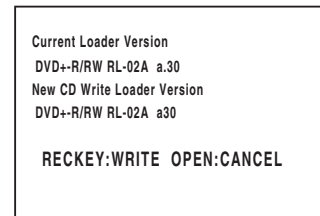

Fig. 3-1-5
- 5) The current version of drive firmware and the version of firmware on the disc will both appear on the screen. Pressing the REC ● button on this DVD recorder will start writing (Fig. 3-1-5).